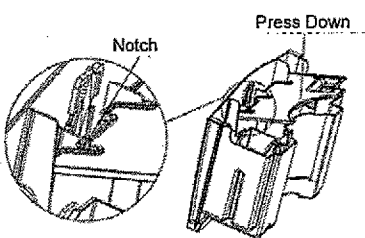

Fig. 4
4. Replace the bucket cover. Make sure the cover is locked into the notches on the bucket and push down (Fig. 4 & 5).
1. Remove the BUCKET from the unit. (Fig. 4)